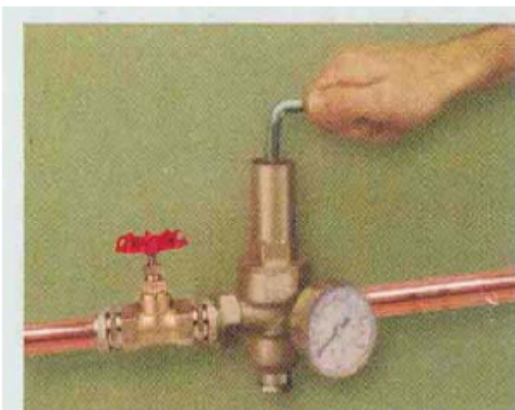

Figure 2
- 1) Close the inlet valve, open the tap lid, loosen the adjustment screw completely , open the valve bonnet (Figure 2)